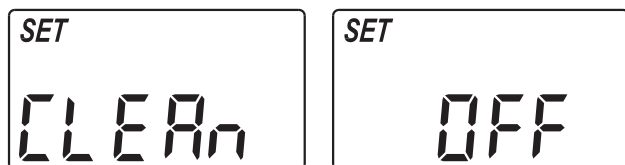

FIG. 24
2. Press the SELECT button once again, so that "SET CLEAN OFF" or "SET CLEAN ON" flashes in the display (See Figure 24).